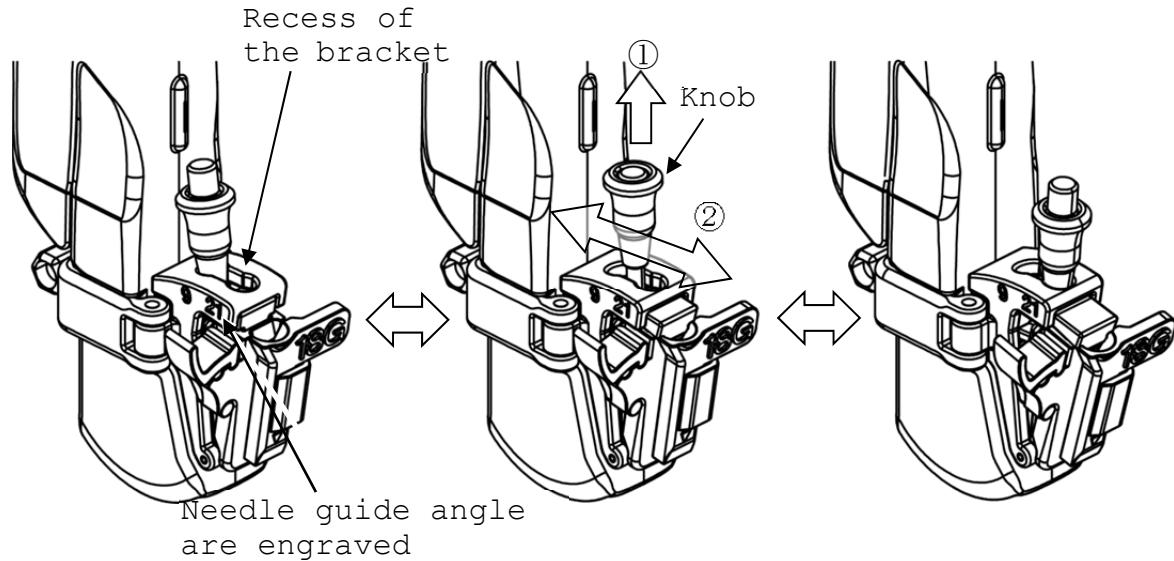

Fig.16 Setting the needle guide angle
Pull the knob(①) and release it into the recess of appropriate angle of the bracket(②). Needle guide angles are engraved on the bracket. (See Fig.16)